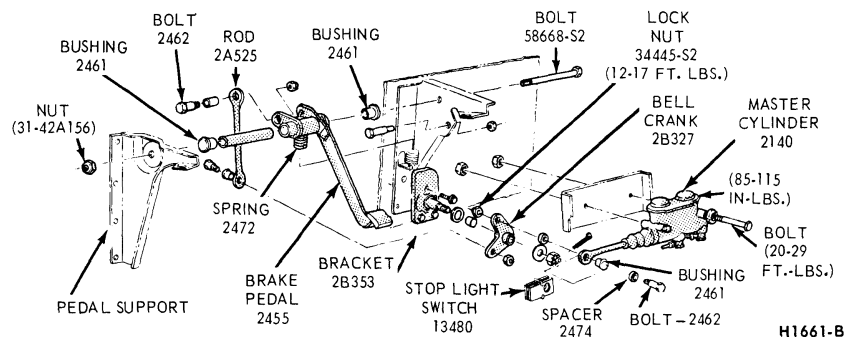

FIG. 18 Dual Master Cylinder and Brake Pedal Installation—C-Series
Refer to Figure 18.
1. Remove the brake pedal retracting spring (Figs. 18 and 21).